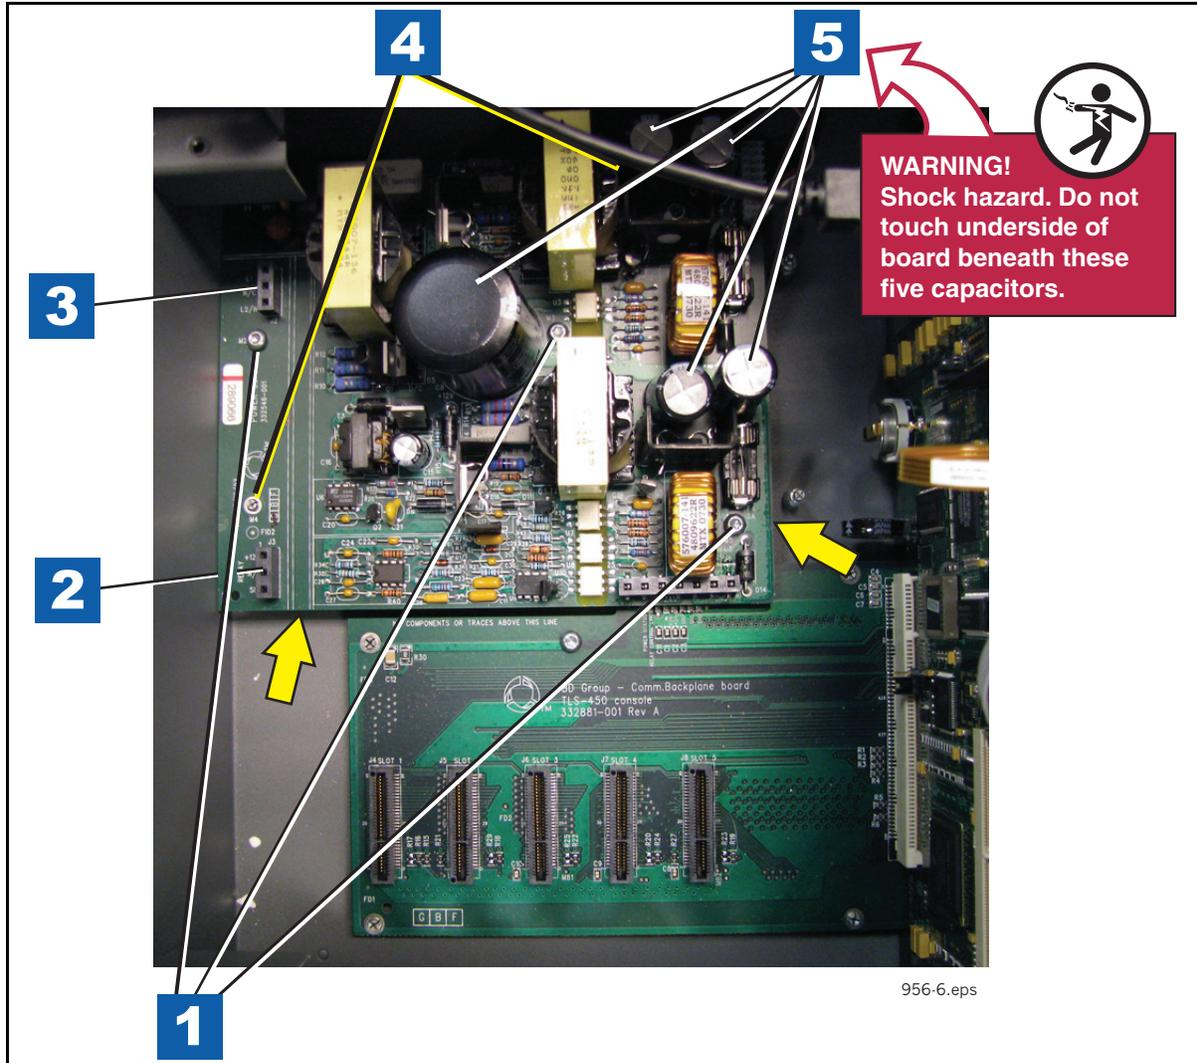

Figure 8. Removing Power Supply
2. #8 taptite screws (2)
8. Remove the three #6 taptite screws (item 1 in Figure 8) that secure the Power Supply board to the console housing.
9. Place fingers under the Power Supply board (at locations indicated by two arrows in Figure 8) and lift the board up until it is free of the two retention pins (item 3 in Figure 8).
**Legend for numbered boxes in Figure 8**
14. Lineup the two holes in the Power Supply board (see item 4 in Figure 8) with the two retention pins in the back of the console housing and push the board down until the pins snap into position.
15. Install the three #6 taptite screws (item 1 in Figure 8) and tighten them.
16. Get the AC Input module. Notice that there are two male connectors on the bottom of the AC Input module board that plug into two female connectors on the Power Supply board. With the handle (item 3 of Figure 7) of the AC Input module against the left side of the console housing, line up the two AC Input module bottom connectors over the two female connectors (items 2 and 3 in Figure 8) on the Power Supply board and push down on the AC Input module until the connectors are firmly seated.